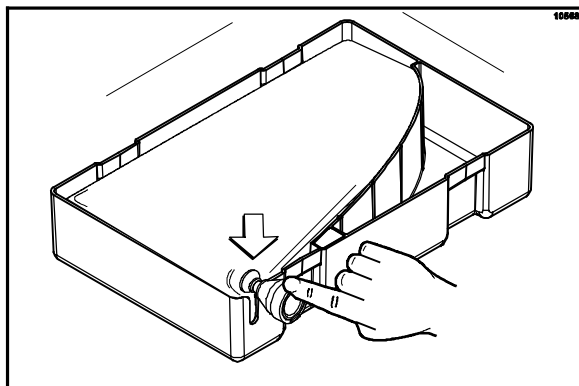

Figure 20
5. Lay the concentrate bag in the concentrate container. Position the groove of the bag fitment into the groove of the concentrate container. (See Figure 20.)